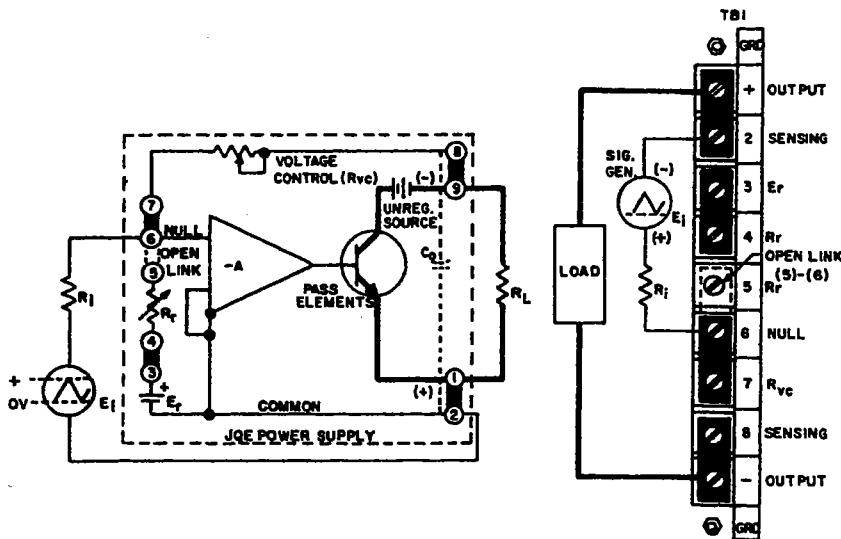

FIG. 3-9 JQE ¼ Rack IN THE OPERATIONAL AMPLIFIER MODE.
**3-27** As seen from the expression (Eq. 5), if the ratio  $R_{VC} / R_r$  (which represents the closed loop gain of the system) is held constant,  $E_o$  will vary linearly with  $E_r$ , the external programming voltage. The above expression (Eq. 5) is seen to be the transfer function for an operational amplifier in the inverting configuration. The voltage programmed power supply does in fact become a unipolar power amplifier with very high power gain but with limited frequency response. (Refer to FIG. 3-9). The limited frequency response is largely due to the effect of the output capacitor ( $C_o$ ), acting as a low-pass filter and preventing the output voltage ( $E_o$ ) from varying rapidly. The output voltage may be varied over the full range, bounded on the high end by the maximum rated value. A practical example to illustrate component selection for remote control by voltage is given in paragraph 3-28.
3-28 Example: A Kepco Model JQE 36-3M is to be voltage programmed over its full range (0 to 36V) by a triangular, positive increasing source with a peak output voltage ( $E_i$ ) of 2 volts, which is able to deliver at least 1 mA control current. Since the required voltage gain is:  $E_o/E_i = 36/2 = 18$ , the ratio  $R_{VC}/R_i$  must also equal 18. If the internal voltage control is retained, in this case, since  $R_{VC} = 40K$  ohms,  $R_i$  must equal  $40K/18 = 2.22K$  ohms. FIG. 3-9 shows the JQE Power Supply as an operational amplifier and the necessary rear barrier connections for this mode of operation. As the input source varies from 0 to 2V, the JQE output voltage will change from 0 to 36 volts.